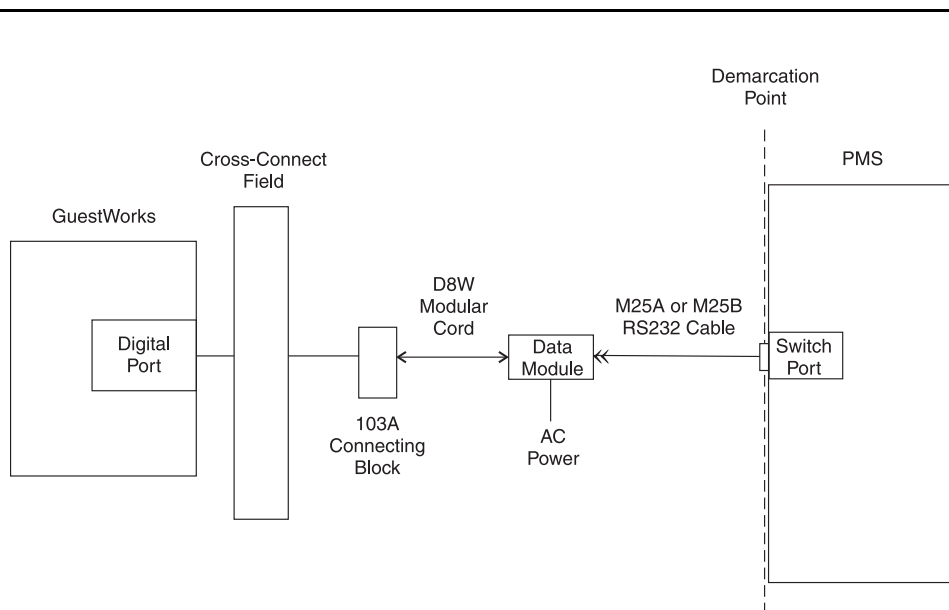

Figure 17. Switch-to-PMS Link
Figure 17 shows the connection between the switch and the PMS.
5. Reconnect the unit as shown in Figure 17.
6. Reconnect the unit as shown in Figure 17.
Using the RS232 Mini-Tester (see the Note on Page 11), check the status of the link at the data module as shown in Figure 17 before you connect to the PMS. The leads marked with an asterisk are controlled by the switch, and the PMS controls the other leads. Translations for this connection begin on Page 203.